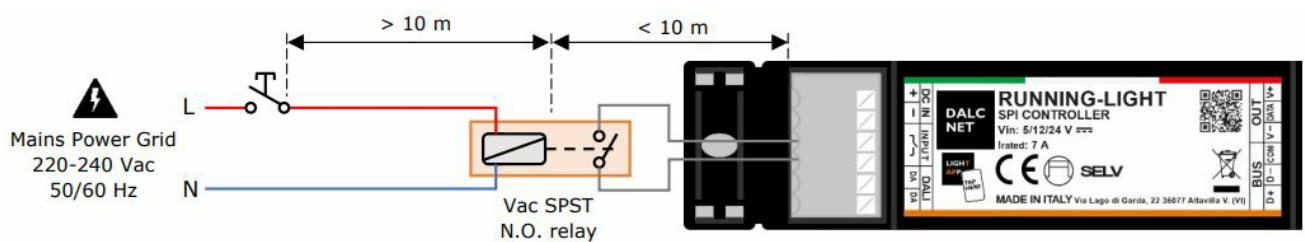

Figure 5: Local Command wiring diagram for Long Distances
- For longer distances (>10 m), it is recommended to use an N.O. dry contact relay module, connected between the “Input” terminal of the RUNNING-LIGHT and the power source (e.g. mains voltage 230 Vac). Figure 5 shows an example of a Local Command wiring recommended for long distances.